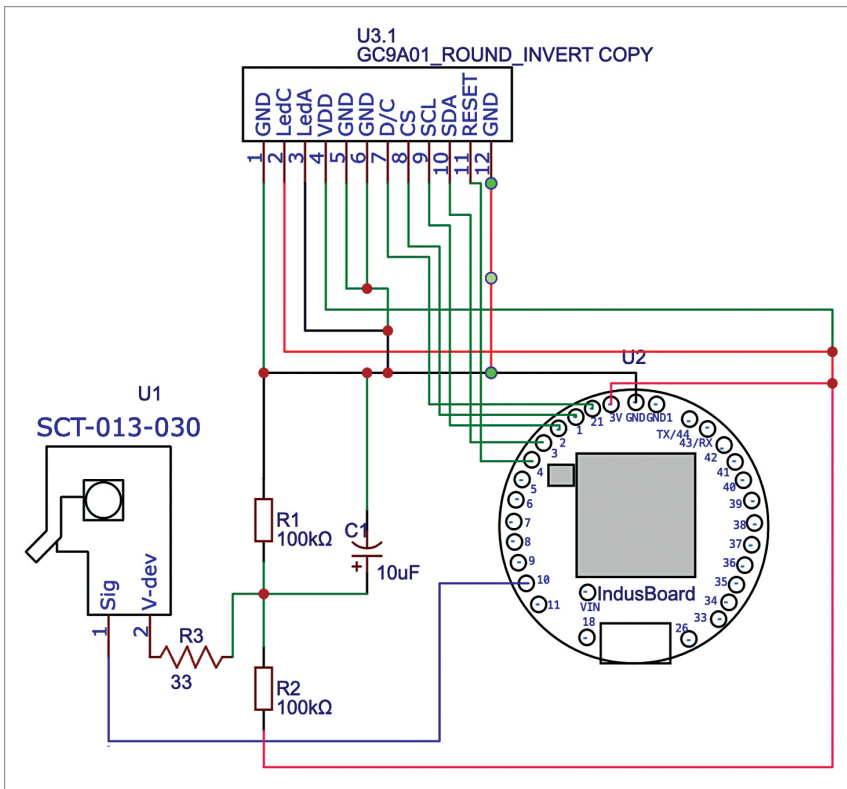

Fig. 3: The IoT meter circuit with GC9A01 round display
Alternatively, the design supports an OLED or a round LCD display. Fig. 3 illustrates the circuit using a GC9A01 3.25cm (1.28-inch) round LCD TFT display, substituting the SSD1306 OLED display. The remaining circuit elements remain the same.
- If using a round display, connect the GC9A01 round display to the IndusBoard, as shown in Fig. 3.